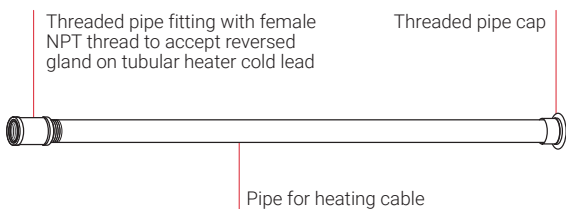

Figure 25: Typical pipe preparation for tubular heaters
1. The illustration in Figure 25 is typical of the preparation required for the pipes and related fittings necessary for installation of the tubular heater. Cut and prepare the pipes as directed in the project design specifications. One end must be capped and sealed so that it is liquid tight. The other end, where the tubular heater will be inserted, must be prepared with a female 3/4 in or 1 in NPT fitting, as required, to accept the male 3/4 in or 1 in NPT fitting (Reversed Gland) on the tubular heater cold lead (see Figure 1 in Section 1). A threaded flange may be used instead of the threaded pipe fitting.